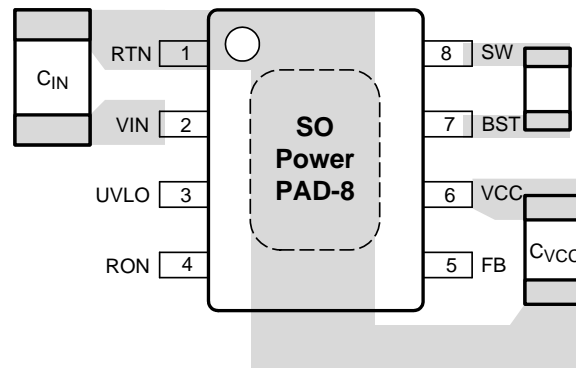

Figure 24. Placement of Bypass Capacitors
- C_{IN} : The loop consisting of input capacitor (C_{IN}), V_{IN} pin, and RTN pin carries switching currents. Therefore, the input capacitor should be placed close to the IC, directly across V_{IN} and RTN pins and the connections to these two pins should be direct to minimize the loop area. In general it is not possible to accommodate all of input capacitance near the IC. A good practice is to use a 0.1- μF or 0.47- μF capacitor directly across the V_{IN} and RTN pins close to the IC, and the remaining bulk capacitor as close as possible (see Figure 24).
- C_{VCC} and C_{BST} : The V_{CC} and bootstrap (BST) bypass capacitors supply switching currents to the high and low side gate drivers. These two capacitors should also be placed as close to the IC as possible, and the connecting trace length and loop area should be minimized (see Figure 24).